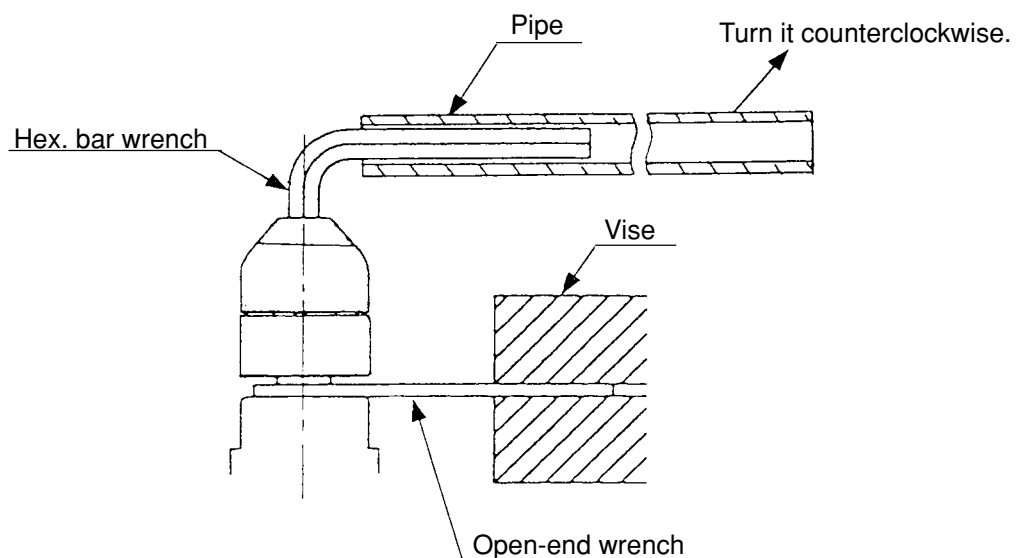

Fig. 16
- b. Hold the Spindle (5) [5] [5] <5> with the open-end wrench secured to the vise as shown in Fig. 16. Mount the pipe to the hex. bar wrench. Turn the hex. bar wrench counterclockwise to loosen the drill chuck. (Fig. 16)